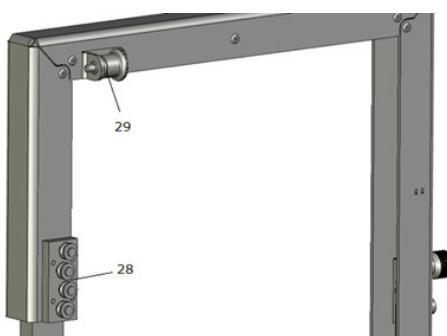

Fig. 13
The corner cutter (16) is inserted into the guide rail (17) provided for this purpose from above on the right side of the right base plate (2, Fig. 1) with the rollers of the slide carriage (28, Fig. 13). Make sure that the slide carriage is not tilted and that the rollers are inserted straight.
Unlock the EKS at the locking bolt (29, Fig. 13) and let the wire slide down to the stop at the marked point.